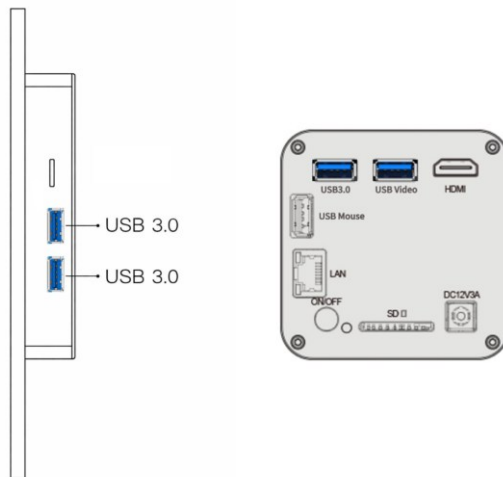

Figure 8 Overall installation effect
- After installation, the overall effect is shown in Figure 8.